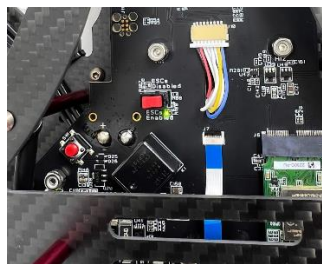

Figure 2. ESCs enabled (motors can spin)
4. Plug in a battery and turn ON the QDrone 2 using the red on button. Place the drone at the center of the workspace ensuring the ESC disable switch has a green light (which means the ESC is enabled), as shown in figure 2.